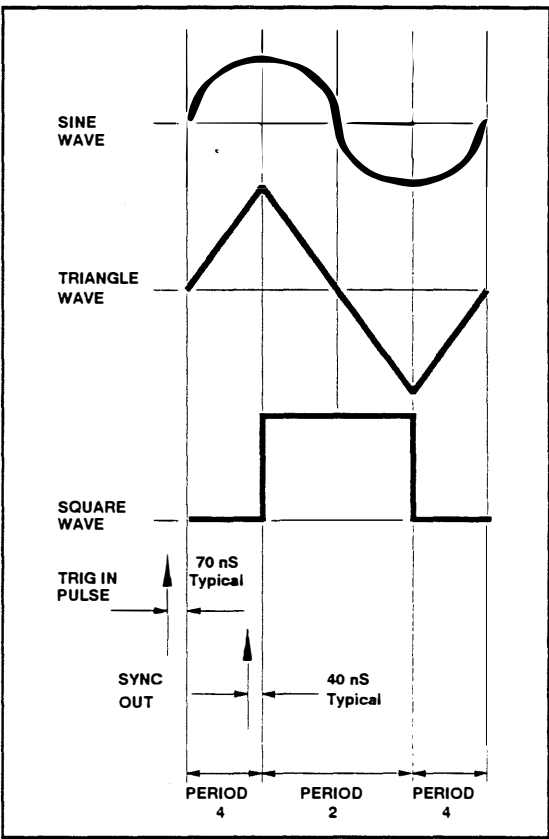

Fig. 1-1. Trigger to timing and phase relationships.
- Triggered: Output quiescent until triggered by an internal, external, GPIB, or manual trigger; then generates one cycle at programmed frequency, amplitude, and offset. See Figure 1-1.